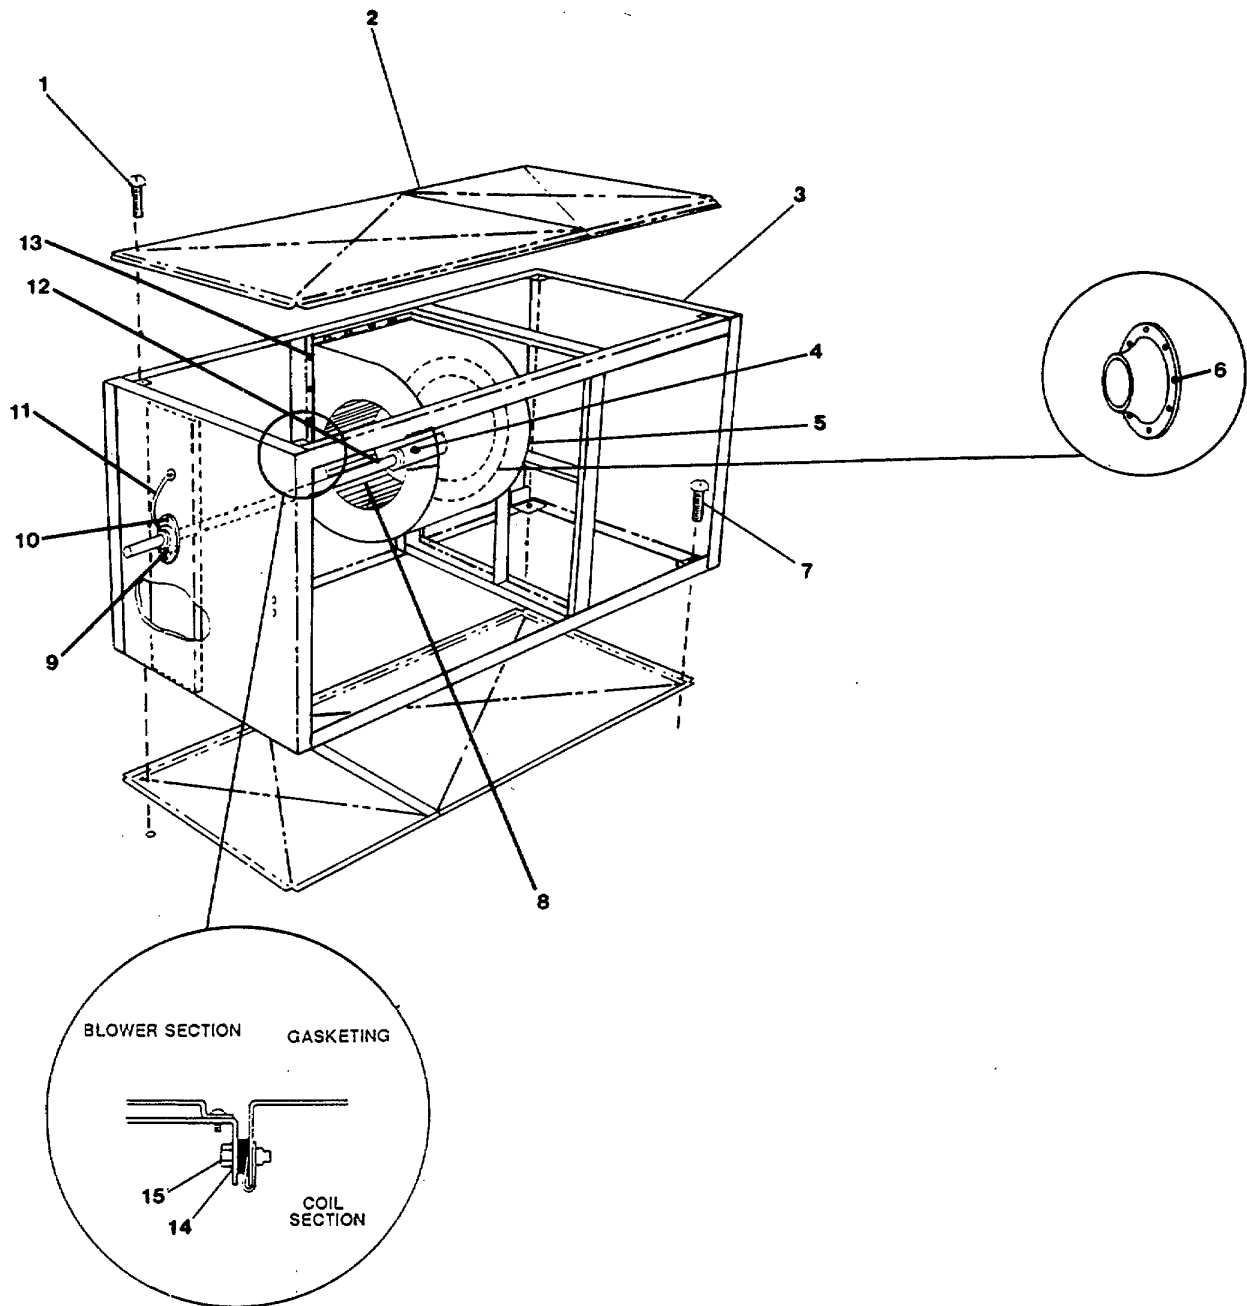

Figure 4-13. Blower.
**4-16. Replace/Repair Blower. ( FIGURE 4-13)**